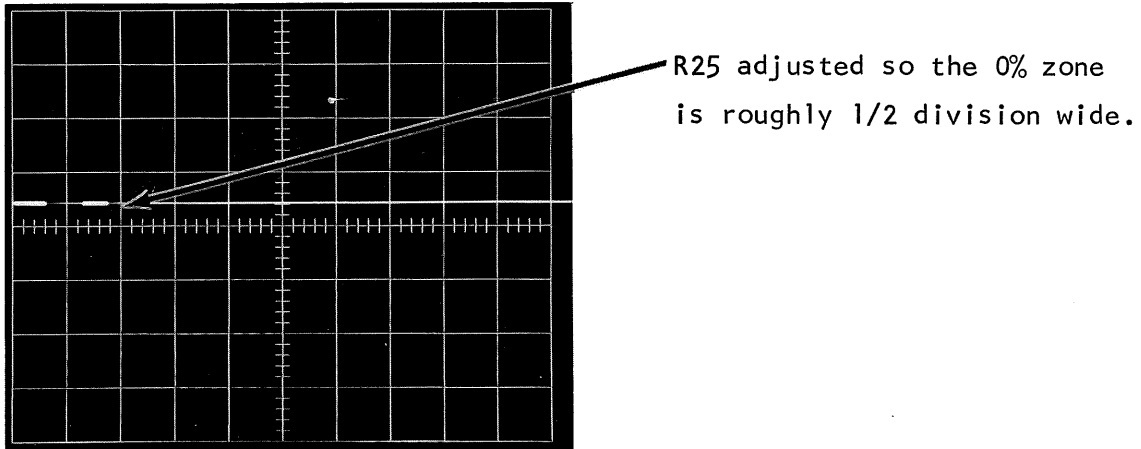

Figure 2-7
7. Adjust the A 0% Zone Width so the 0% zone is roughly 0.5 divisions wide. See Figure 2-7.